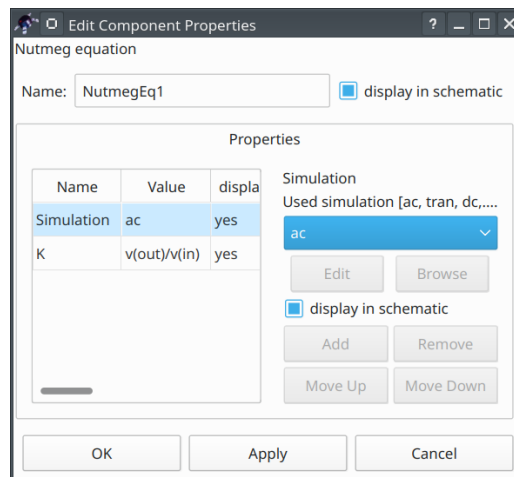

Figure 7: Equation setup dialog
- **Step 4:** Place equation for the magnitude response $K = V_{out}/V_{in}$ on the schematic. Equation is the special component called *Nutmeg equation* that could be found in the *spice specific sections* category. The full SPICE syntax for mathematical functions and node names is supported. Refer to Ngspice manual for more details. The simulation should be specified for each Nutmeg equation. We will calculate the magnitude response for the AC simulation only and therefore we need to enter `ac` as the first property for this device as shown on the Fig. 7.